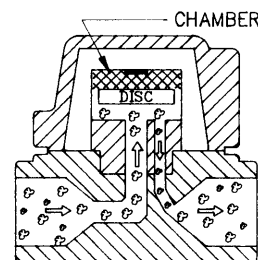

**FIGURE 11**
**Figure 11:** Further flow is stopped when sufficient pressure is trapped in the chamber above the disc. During operation, a decrease in chamber pressure permits inlet pressure to lift the disc and open the trap (**Figure 9**).